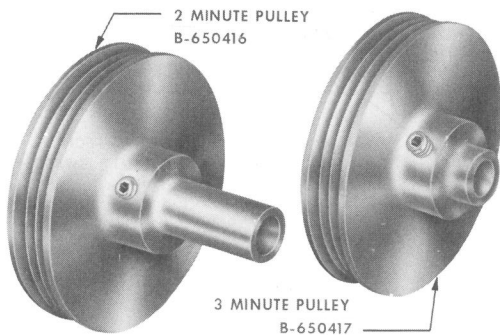

Fig. 8—Drive Pulleys
**2.10** The B-650417 3-minute pulley (Fig. 8) is used to increase the maximum announcement recording capacity from 2 to 3 minutes. The 3-minute pulley reduces the angular speed of the recording drum, thereby increasing the announcement capacity.
**2.11** As shown in Fig. 8 the 3-minute pulley differs from the 2-minute in that the smaller diameter extension is not provided and hence, the flat drive belt is driven directly from the shaft.